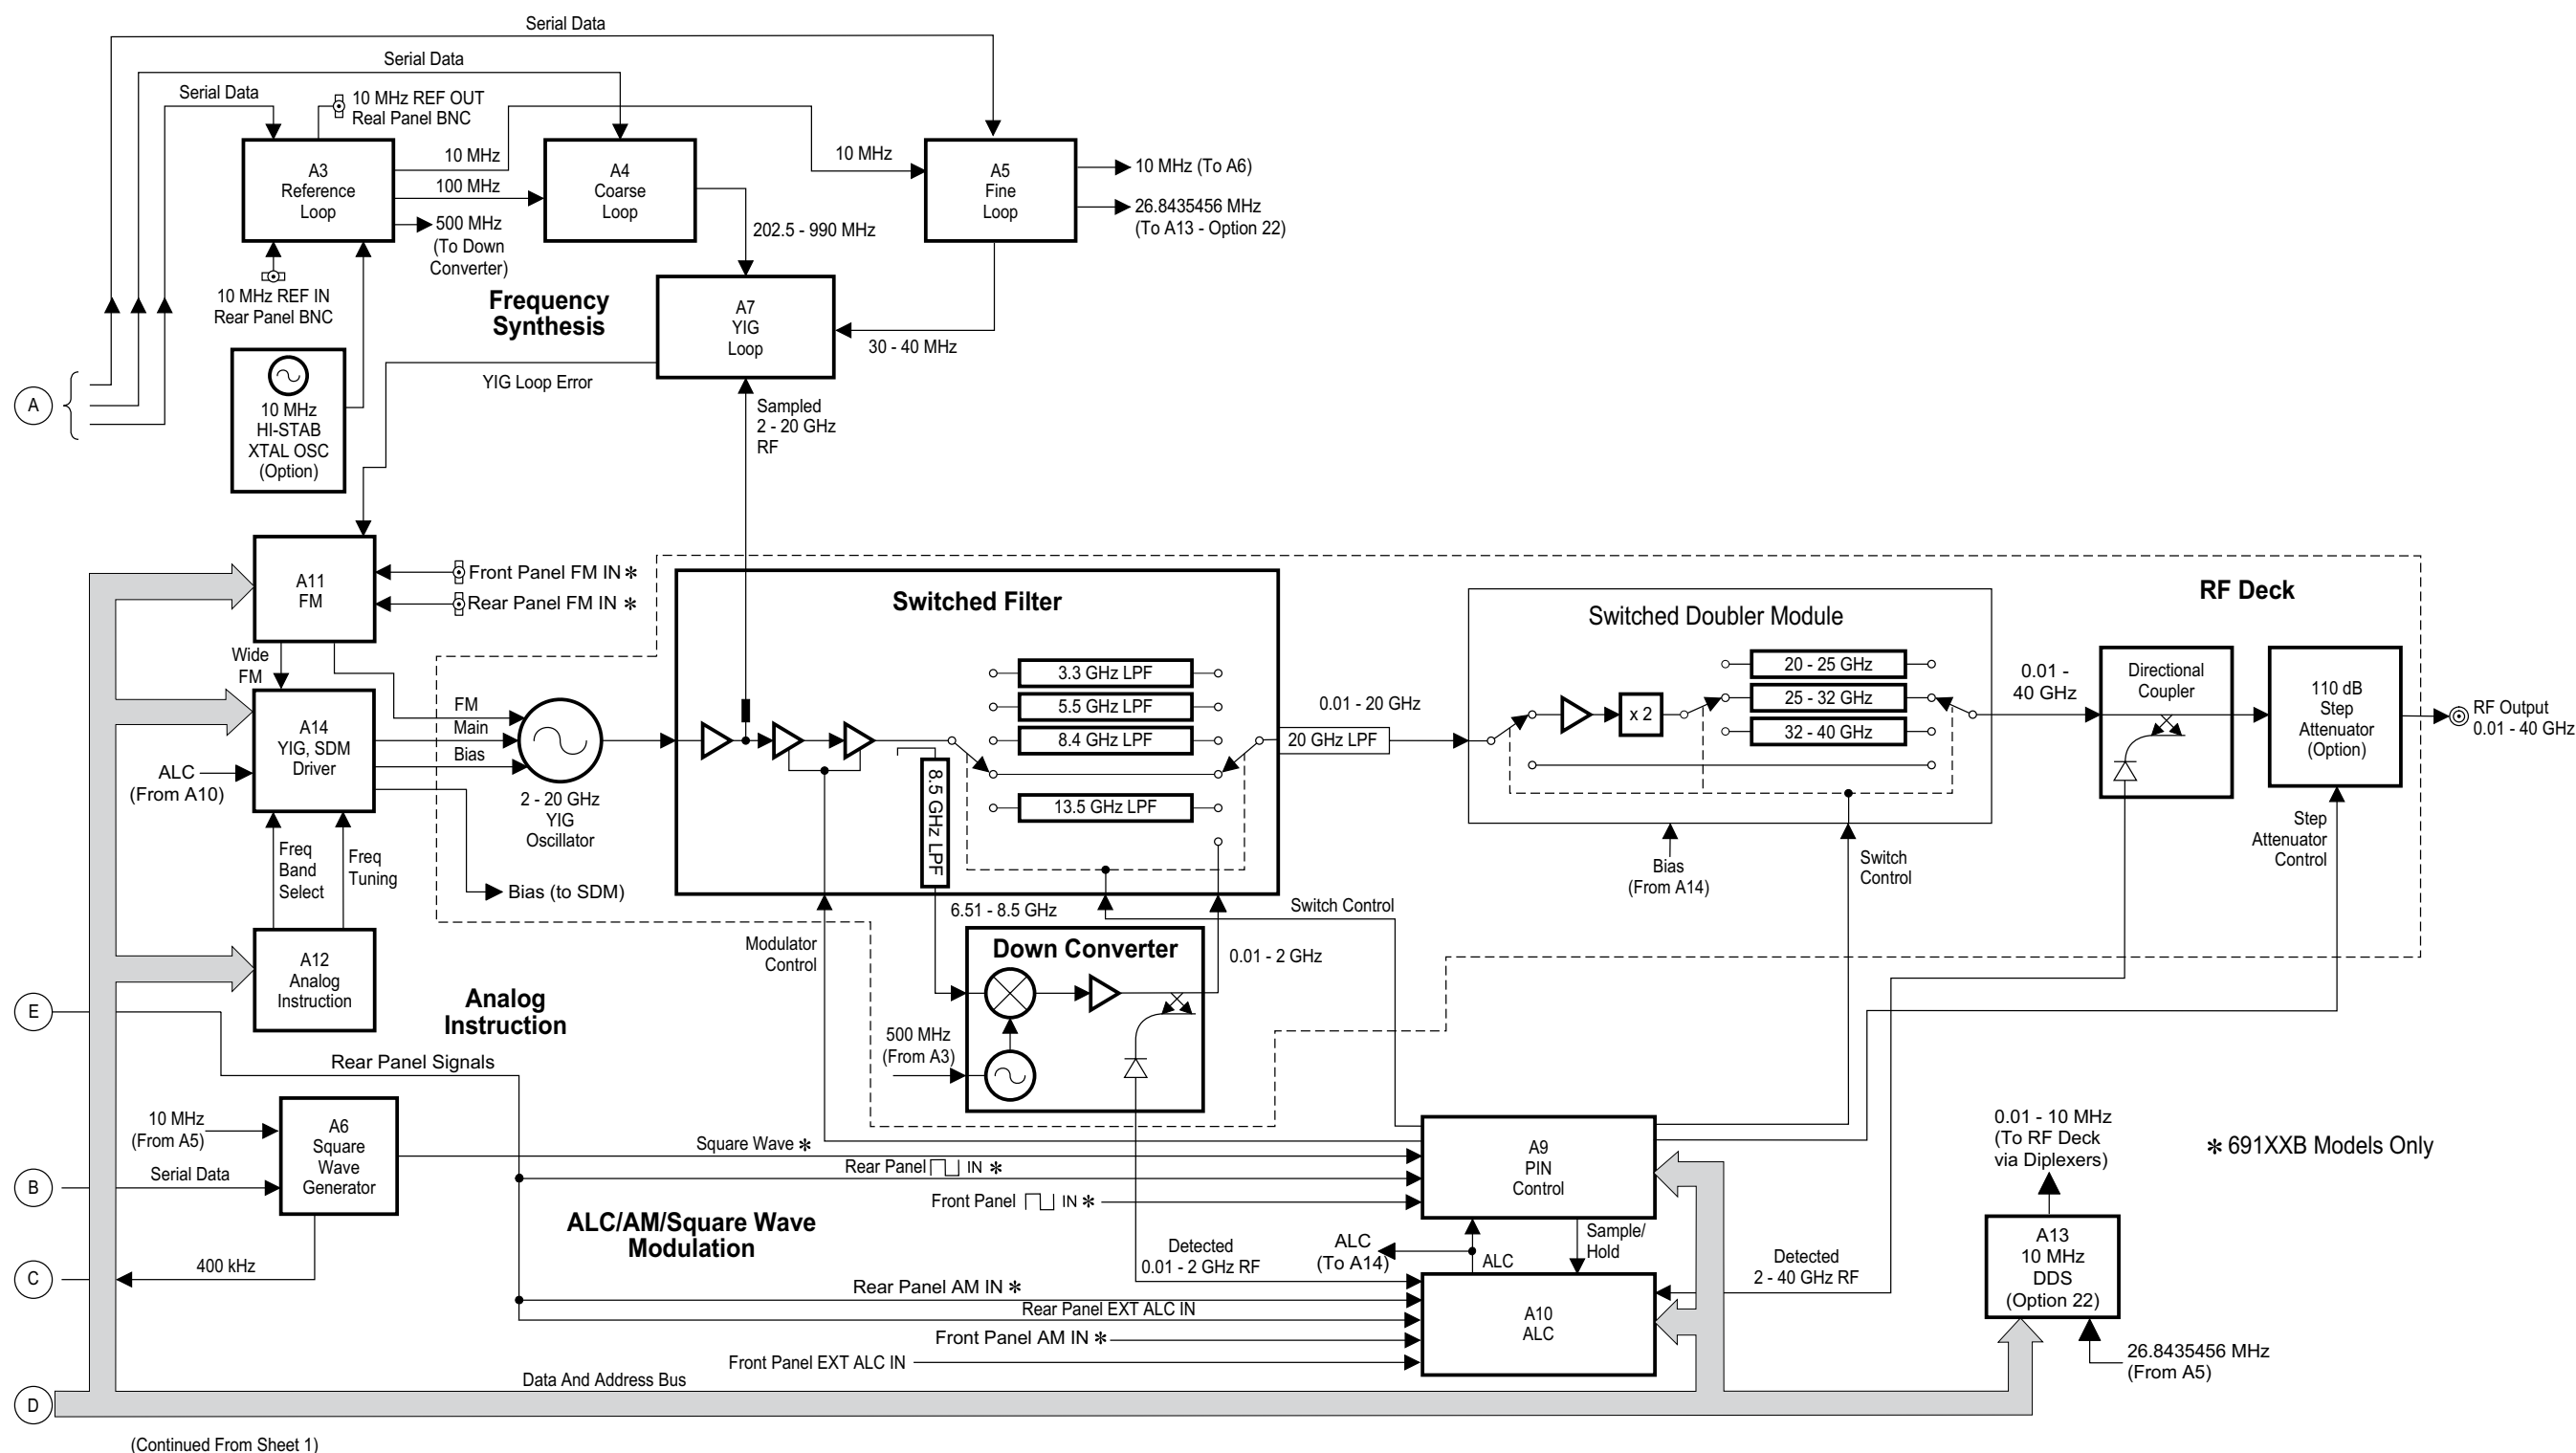

Figure 2-1. Block Diagram of a Typical 690XXB/691XXB Synthesized CW/Signal Generator (Sheet 2 of 2)
The 690XXB/691XXB circuitry consists of various distinct subsystems that are contained on one or more printed circuit board (PCB) assemblies or in microwave components located on the RF deck. The following paragraphs identify the subsystems that make up the instrument and provide a brief description of each. Figure 2-1 (page 2-6) is an overall block diagram of a typical 690XXB/691XXB.
Refer to the block diagram of the RF Deck shown in Figure 2-1 (page 2-7) for the following description. The 690XXB/691XXB uses one YIG-tuned oscillator. All other frequencies output by the instrument, except for 0.01 to 10 MHz, are derived from the fundamental frequencies generated by this YIG-tuned oscillator.
Frequency modulation (FM) of the YIG-tuned oscillator RF output by external signals is performed by summing the external modulating signal into the FM control path of the YIG loop. Refer to Figures 2-1 and 2-2. The external modulating signal comes from the front panel or rear panel FM IN input. Circuits on the A11 FM PCB adjust the modulating signal for the proper amount of FM for the sensitivity selected, then sum it into the YIG loop FM control path. There, it frequency modulates the RF output signal by controlling the YIG-tuned oscillator's FM (fine tuning) coil current.